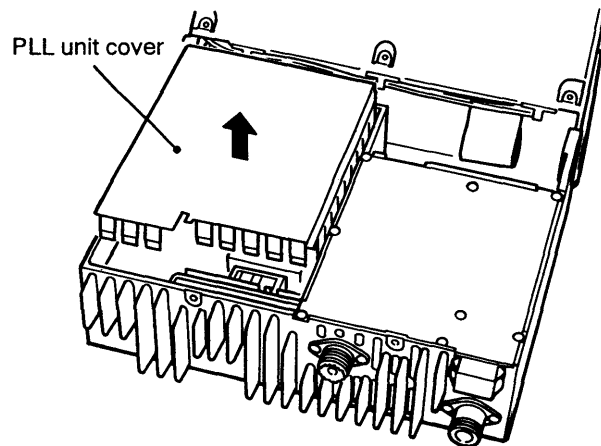

Fig. 1
- ① Remove both the top and bottom covers. (p. 50)
- ② Remove 13 screws from the MAIN unit. (Fig. 1)
- ③ Slide the MAIN unit forward slightly to free the [DELAY] and [CW SIDE TONE] control knobs from the rear panel.
- ⑤ Install the FL-132 and/or FL-133 in the proper position.
- ⑥ Cut the filter leads, keeping 2-3 mm (1/8 in) leads from the bottom of the MAIN unit.
- ⑦ Solder the leads.
- ⑧ Replace the MAIN unit.
- ⑨ Fit the wires from the rear of the front panel in the open space between the chassis and MAIN unit. (Fig. 1)
- ⑩ Replace the top and bottom covers.
(Fig. 1)
- ② Open the MAIN unit chassis. (p. 50)
- ③ Remove the shield cover from the PLL unit. (Fig. 1)